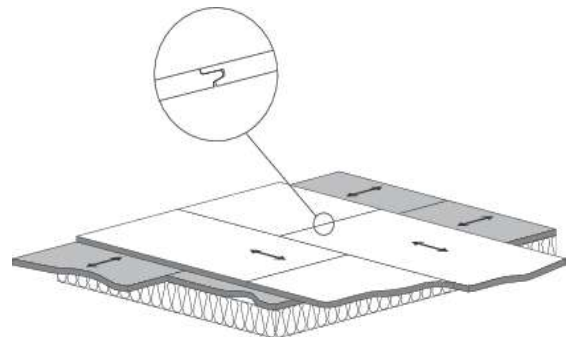

Figure 7
4. After the base layer is installed the top layer of panels must be laid-down cross-wise (figure 7). The two OSB layers must be joined together in a shear-resistant manner by gluing or screwing.